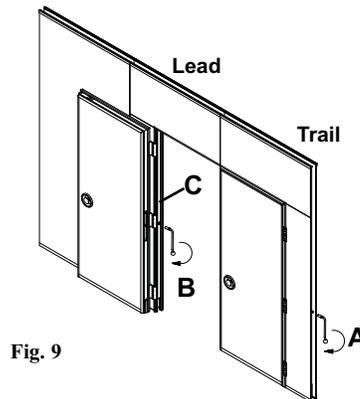

Fig. 9
**L-Shaped Pass Door (batwing style-2 doors). (Fig. 9)**
The pass door has a retractable bottom seal. To extend the door seal, locate the built-in handle in the door frame (C) shown in Fig. 9. Release the door seal by lifting on the bottom of the handle and then pulling it towards you. Next, pull the handle down towards the floor to the desired location. Pivot the handle back into the door jamb to lock the seal into position. Push the bottom of the handle back into the jamb. Be certain to return the handle to its correct stored position or it may interfere with, or damage, the door frame.